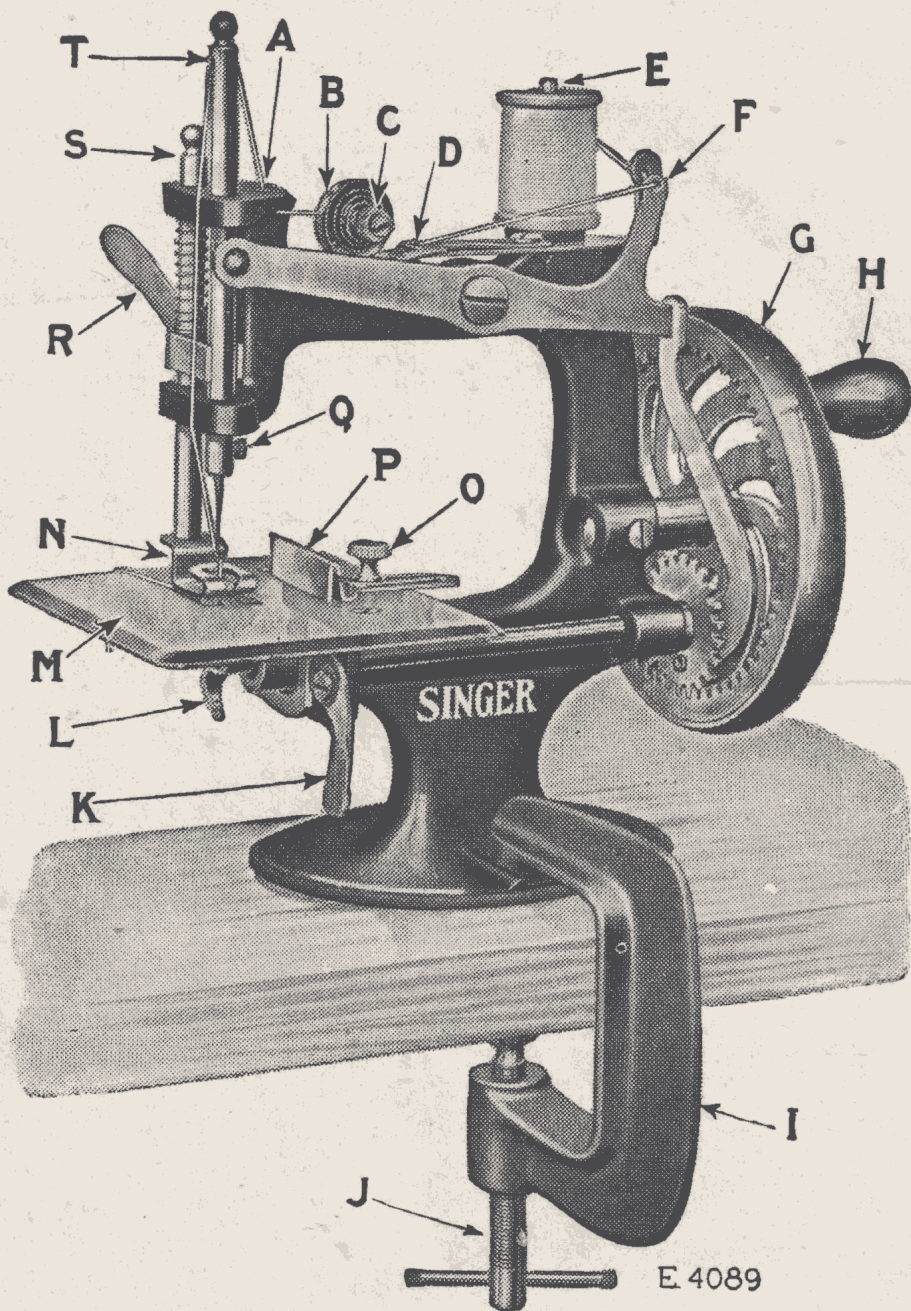

FIG. 2
Place the machine on the table or desk as shown in Fig. 2, adjust the clamp (I, Fig. 2) on the base of the machine and firmly tighten the clamp screw (J, Fig. 2) against the underside of the table or desk to fasten the machine in position. Then tightly screw the driving handle (H, Fig. 2) into its position at the right of the hand wheel (G, Fig. 2).
Turn the hand wheel (G, Fig. 2) over from you until the needle bar (T, Fig. 2) moves up to its highest point. Loosen the set screw (Q, Fig. 2) in the lower end of the needle bar, take out the old needle and put the new needle up into the bar as far as it will go with its flat side toward the right and the long groove in the needle at the left, then firmly tighten the set screw (Q).
Turn the hand wheel (G, Fig. 2, page 2) over from you until the needle bar (T, Fig. 2) moves
Raise the presser foot (N, Fig. 2, page 2) by turning up the presser bar lifter (R, Fig. 2). Place the material beneath the presser foot and lower the presser foot. Lay the forefinger of the left hand gently on the end of the thread and turn the hand wheel (G, Fig. 2) over from you in the direction indicated by the two arrows on the hand wheel at the right until the first stitch is made. Then place the end of the thread back under the presser foot and commence to sew.
Sew two stitches past the end of the seam and stop the machine with the needle bar (T, Fig. 2)
The length of stitch is regulated by the lever (K, Fig. 2, page 2) under the cloth plate. To make a longer stitch, move this lever away from you. To make a shorter stitch, move the lever toward you.
The tension on the thread is automatic and seldom requires changing. When the needle is at its highest point, the nipper lever (D, Fig. 2, page 2) is raised and the tension on the thread is released so as to allow the needle bar to draw off sufficient thread for the next stitch. The tension is regulated by the thumb nut (C, Fig. 2) at the front of the tension discs. To increase the tension, turn this thumb nut over to the right. To decrease the tension, turn the thumb nut over to the left.
To ensure accurate guiding of the work when sewing close to the edge of the goods, the cloth guide (P, Fig. 2, page 2) should be used. Fasten the cloth guide to the cloth plate of the machine by means of the clamping thumb screw (O, Fig. 2), inserting the thumb screw into the screw hole in the cloth plate. The cloth guide can be adjusted to bring the edge of the goods as close to the line of stitching as desired. If desired, the cloth guide can be removed from the machine.